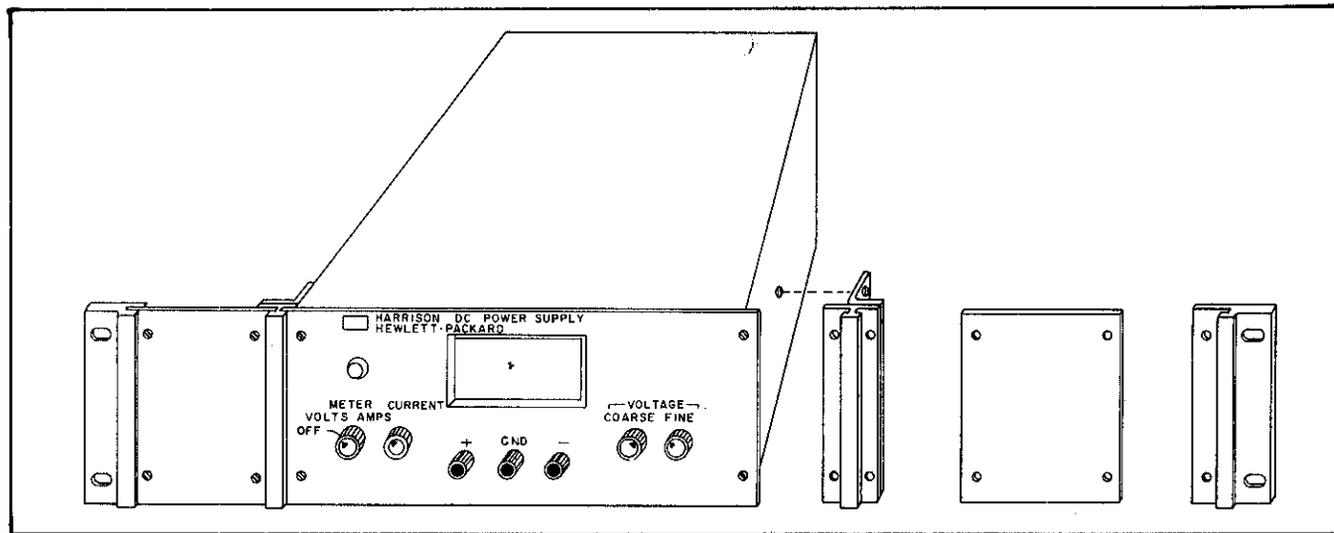

Figure 2-2. Rack Mounting, One Unit
- a. Bolt rack mounting ears, combining strips, and angle brackets to each side of center spacing panels. Angle brackets are placed behind combining strips as shown in Figure 2-2.